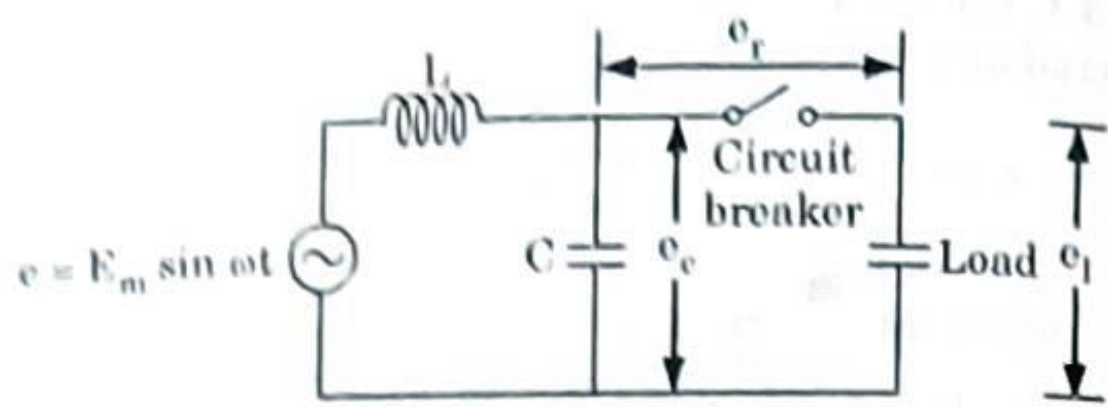

Fig. 4.14.1. Interruption of capacitive currents.
- Let us consider a simple circuit shown in the Fig. 4.14.1.